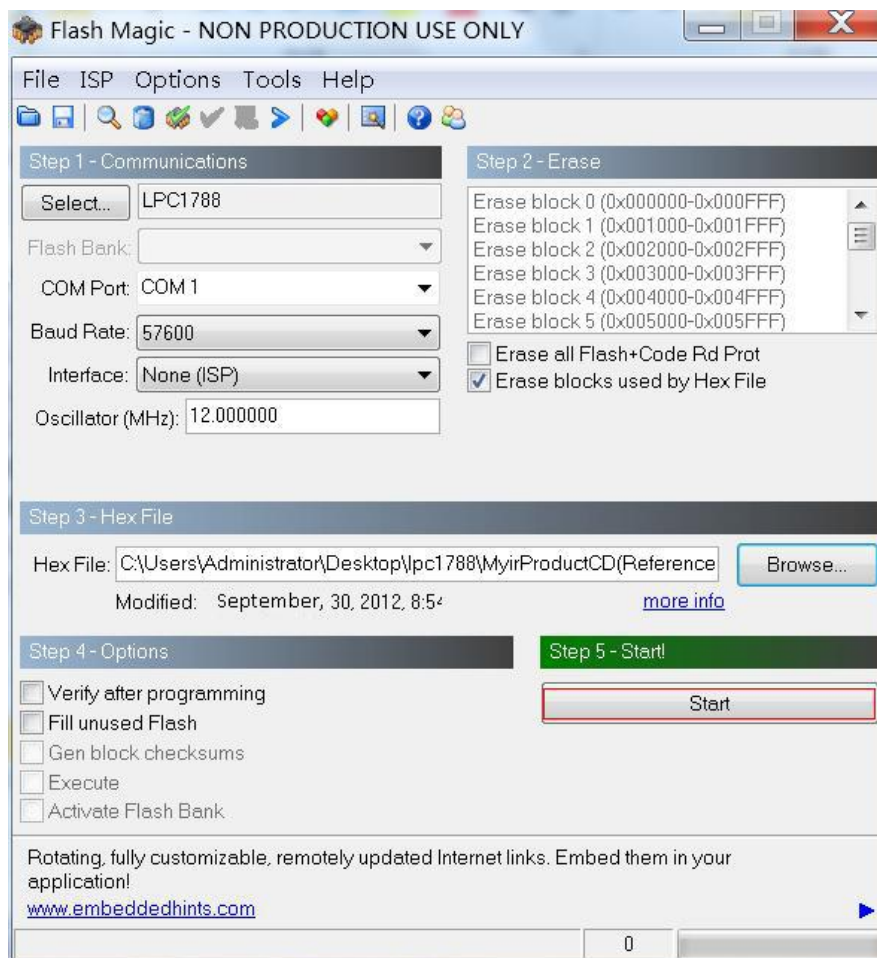

Figure 3-18
(5) Recognizing board and clicking “Start” button, program will be downloaded into board. Refer to figure 3-18: